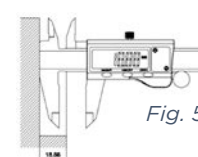

Fig. 5
- D. Measurement of steps (Fig. 5).